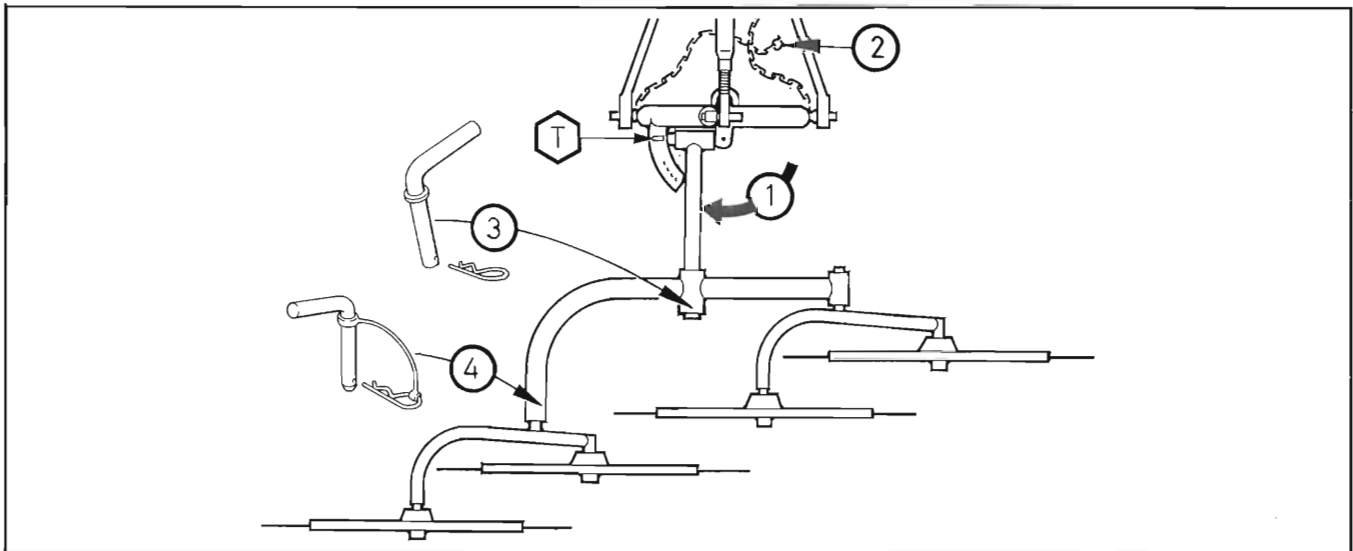

Fig. 17
1. If optional Limiting Chains are being used, raise the Rake and loosen the Chains (2 of Fig. 17).
4. Place the Main Frame in position (T of Fig. 17).
6. Remove the Spring Pin and Locking Pin from the Hinges (3 & 4 of Fig. 17) on the Main Turning Bar Lower Finger Wheel Carrier.